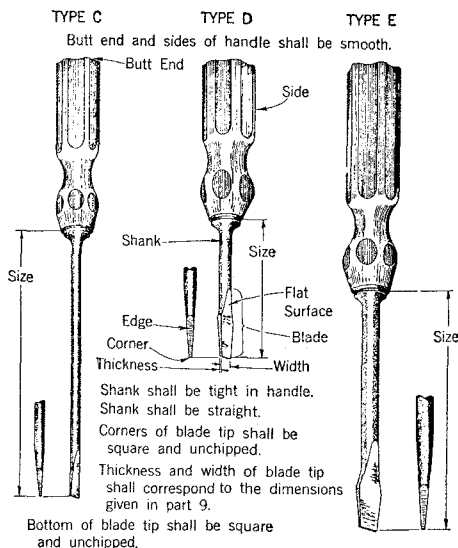

Fig. 2
3.01 Fig. 2 illustrates the C, D and E screwdrivers and indicates the condition in which screwdrivers of these types should be maintained for safe and satisfactory service. These screwdrivers are furnished in three types designated C, D and E in the sizes as shown in the table in Paragraph 3.02. The two C screwdrivers are for light duty on small screws used principally in apparatus assemblies. The two E screwdrivers are for general use on the larger wood and machine screws used in making plant attachments. The D screwdriver is a combination of features of the C and E types for use on an intermediate range of screw sizes.